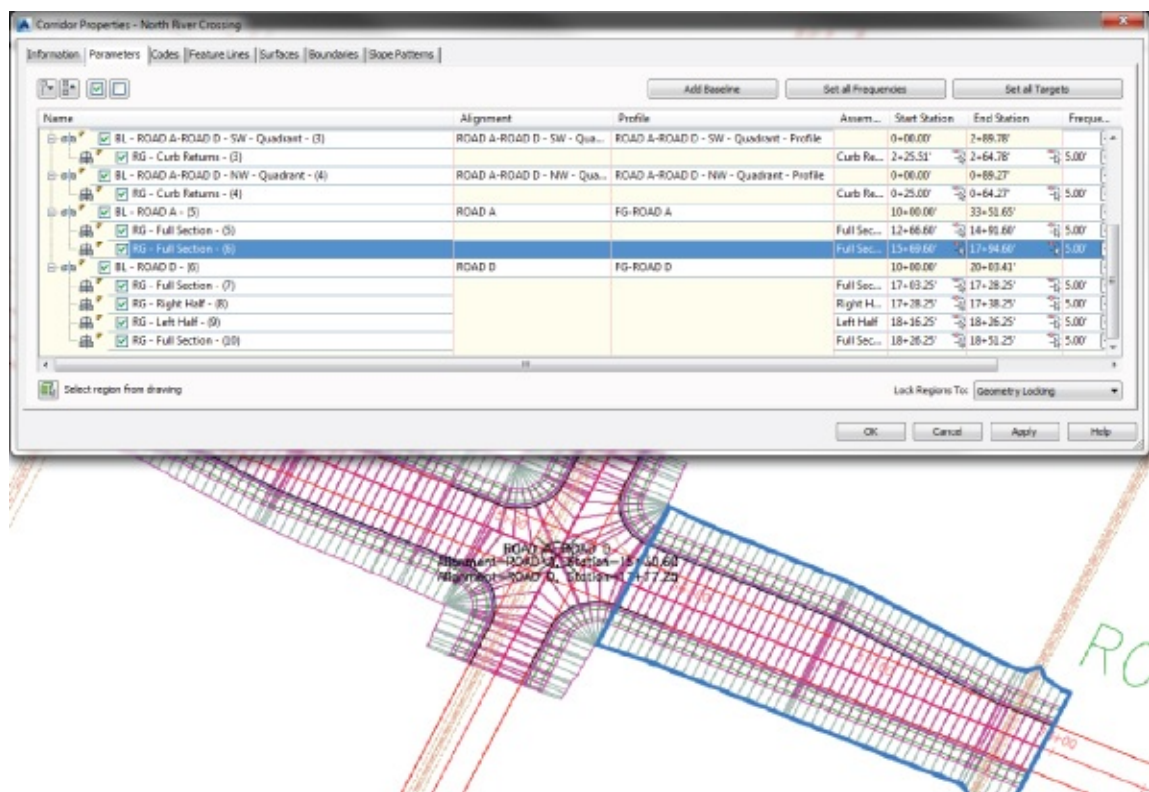

Figure 10.28 One way to modify regions is to use the Parameters tab in Corridor Properties. The selected region will highlight graphically.
a. Switch to the Parameters tab of the Corridor Properties dialog and highlight one of the regions toward the bottom in the list, as shown in Figure 10.28.